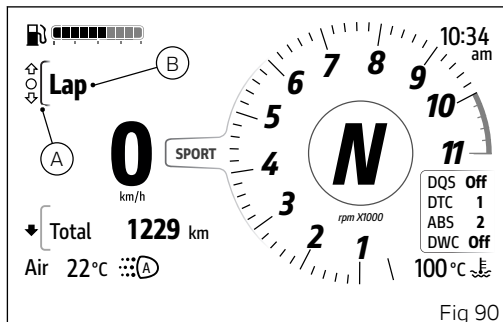

Fig 90
- Select the Interactive Menu (A, Fig 90) by pressing and holding button (1) pressed for a long time.
- Use buttons (1) and (2) to select item "Lap" (B, Fig 90) and press the ENTER button (3).